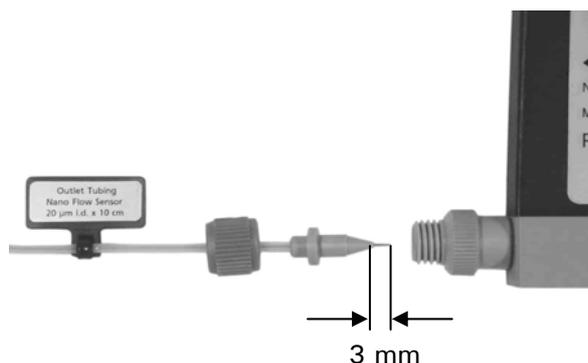

FIGURE A-20. Installing the PEEK Nut and Ferrule
- c) Install a PEEK nut and ferrule that are provided as presented in FIGURE A-20. The fused silica capillary must extend the ferrule by approximately 3 mm.